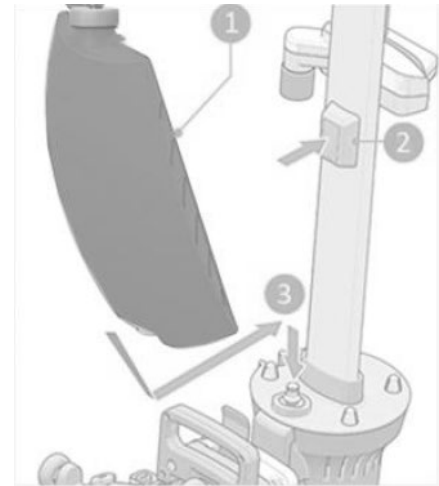

Fig. 3
Put the tank (Fig. 3, pos. 1) on the i-mop® Lite with the valve first.
1. Press the tank downward on the nipple (Fig. 3, pos 3) to open the valve seal.
2. Push the tank forward into place, the magnet (Fig.3, pos. 2) will lock the solution tank in place.